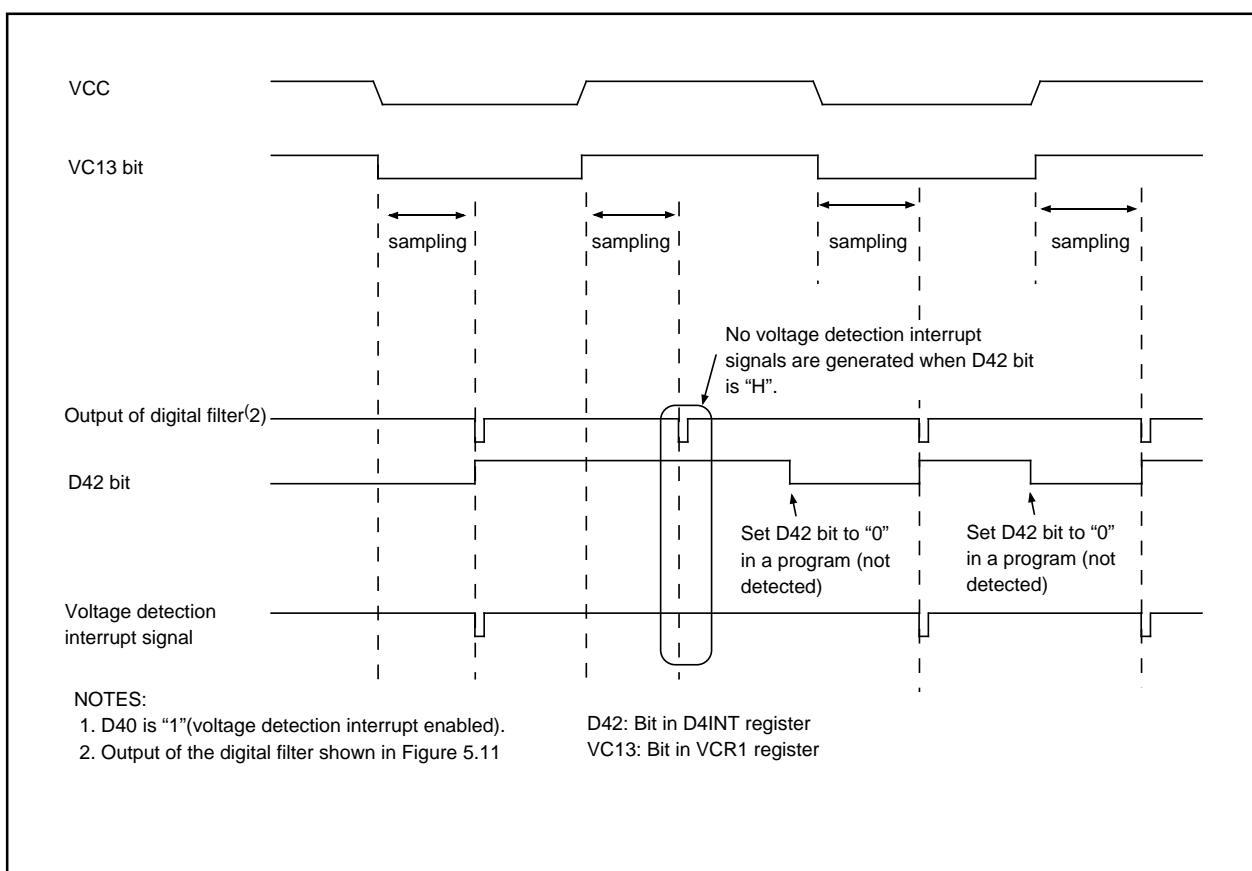

Figure 5.14 Voltage Detection Interrupt Generation Circuit Operation Example
To use the digital filter (D41 bit in the D4INT register is set to "0"), set the CM14 bit in the CM1 register to "0" (low-speed on-chip oscillator on). Figure 5.14 shows an operation example of voltage detection interrupt generation circuit.
2. Refer to Figure 5.14, "Operation Example of Voltage Detection Interrupt Generation Circuit" for interrupt generation timing.